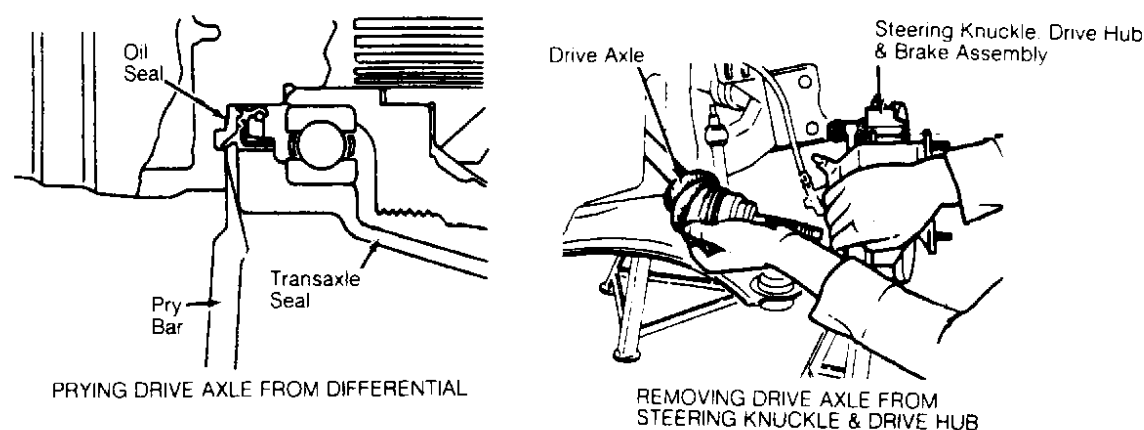

Fig. 1: Removing & Installing Axle Shafts
2. On Capri turbo, remove bolts securing intermediate shaft bearing bracket to engine. On all models, slowly pry axle shaft from transaxle using a flat-tip screwdriver or pry bar. Axle is held into transaxle by a circlip fitted to the end of the axle. Remove axle shaft from wheel hub. If difficult to remove, use axle puller to remove axle from drive hub. Remove axle shaft from transaxle. Plug transaxle openings with Plugs (T87C-7025-C). Remove axle shaft assembly from vehicle. See Fig. 1.